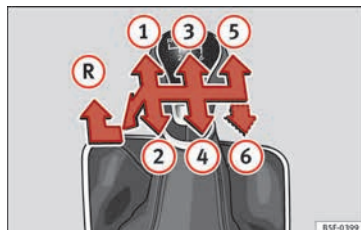

Fig. 42 Gear shift pattern of a 5 or 6-speed manual gearbox
The position of the gears is indicated on the gearbox lever » **Fig. 42**.
- With the gearbox lever in neutral, push it upwards, move it to the left as far as it will go and then forwards to select reverse » **Fig. 42**